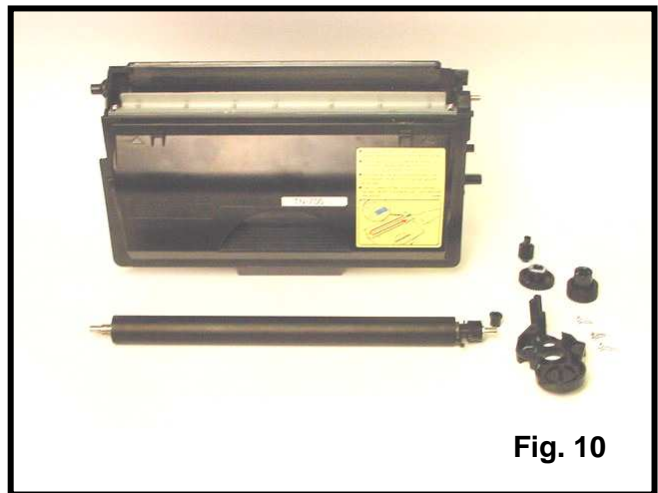

Fig. 10
10. Clean all components and gears thoroughly of excess toner. Reassemble the cartridge in reverse order (Fig. 10).